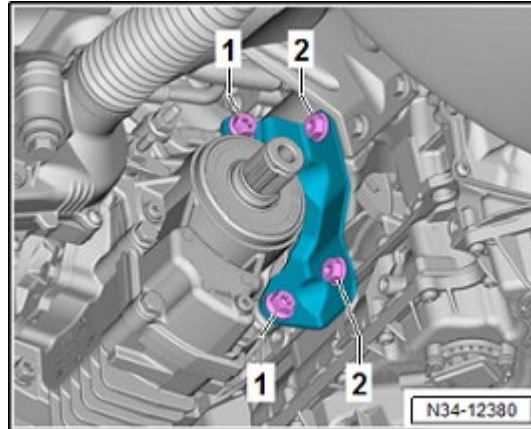

Figure 3. Bolt locations position #1.
- The oil leak can be seen along the case seam of the bevel box (Figure 1), on the passenger side of the propeller shaft on the side facing the engine. It should be between the two bolts in the picture below marked with arrows (Figure 2). These bolts connect the bevel box to the engine bracket (Figure 3, position 1).